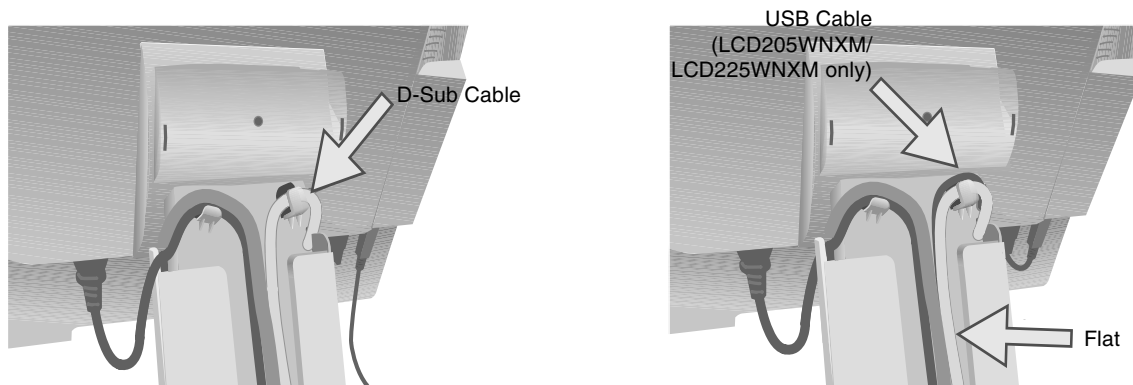

Figure C.4
- Place the D-Sub and the USB cables (LCD205WNXM/LCD225WNXM only) into the specific hooks indicated in **Figure C.4**.
- Make sure all cables are resting flat against the stand (**Figure C.4**).